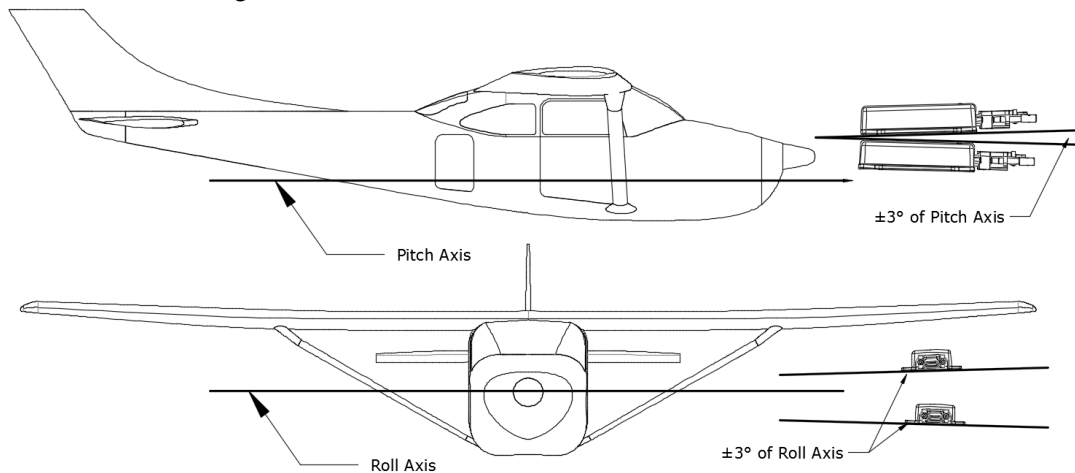
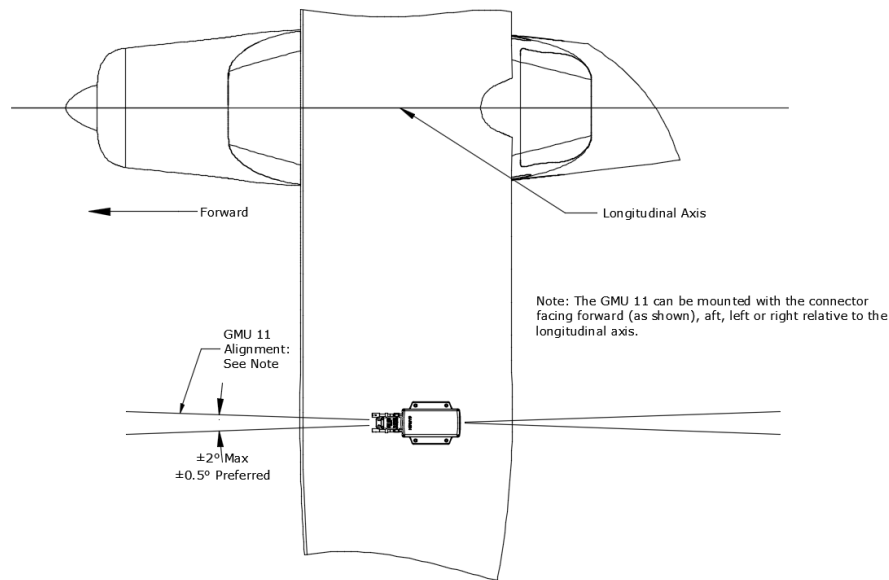

Figure 4-37 GMU 11 Pitch and Roll Requirements
Figure 4-38 GMU 11 Heading Alignment Requirements
- 1) The mounting location must satisfy the alignment requirements shown in Figure 4-37 and Figure 4-38
The GMU 11 must be oriented with the mounting flanges facing down to within 3.0° of the aircraft pitch and roll axis as show in Figure 4-37.
Lateral orientation can be such that the connector faces forward, aft, left or right, but must be within 2° of the longitudinal axis of the aircraft, see Figure 4-38.
1. Temporarily place the GMU 11 in the proposed mounting location maintaining orientation as described in Figure 4-37 and Figure 4-38.